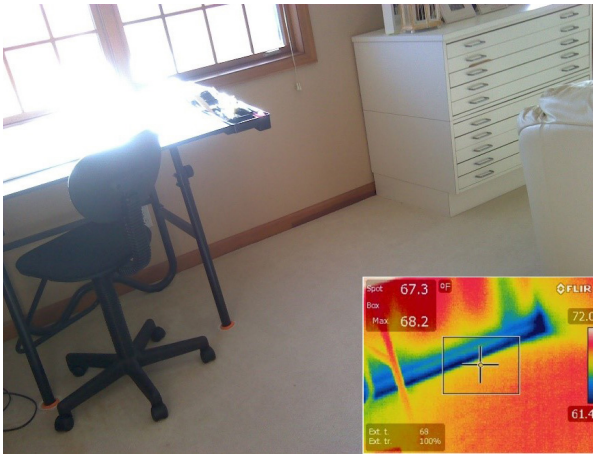

Figure 1. Floor-wall joint leakage (red is warm, blue is cold)
- In existing homes, pressure testing in combination with thermal imaging can also help reveal air leaks, such as in Figure 1.